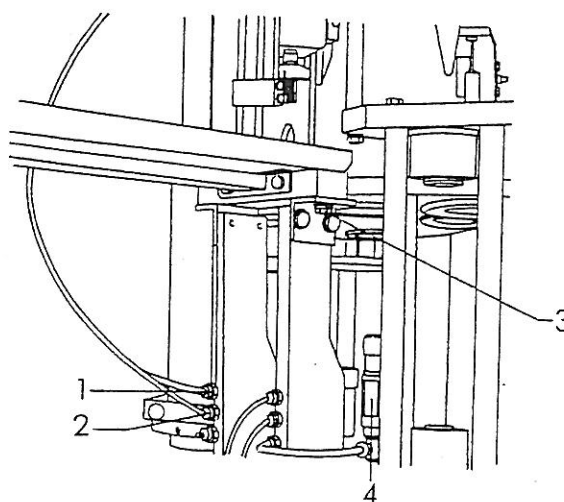

Fig.10.1.17
- Connect the air pipes to points 1 and 2 fig. 10.1.17;